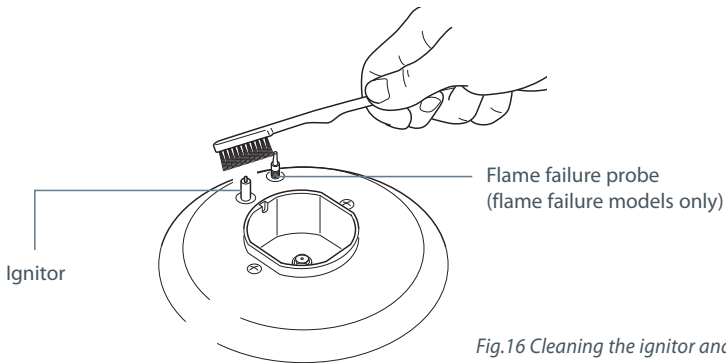

Fig.16 Cleaning the ignitor and probe
Some cooktop models have a flame failure safety device. These models have a flame failure probe as well as the ignitor (see Fig 16).
- the ignitors are sparking. If they are not sparking, they may be dirty or wet. Clean them with a toothbrush and methylated spirits, as shown in Fig. 16 below. See 'Care and cleaning' for instructions on removing and replacing the burner parts.
A burner does not light.	<ul style="list-style-type: none"> ▪ Check that the power to the cooktop is switched on at the wall and there is no power failure. ▪ Check the gas supply valve is turned on and the supply to the house is working. You should hear the gas when you turn a burner on. ▪ If you use bottled gas, check that it is not empty. ▪ The ignitors may be dirty. Clean them with a toothbrush and methylated spirits, as shown in Fig. 16. ▪ The burner parts may not be located properly. Check the assembly and make sure the burner cap is sitting flat. See 'Care and cleaning'.